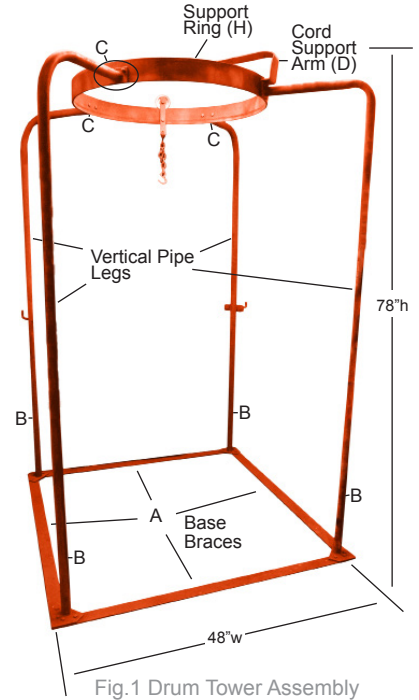

Fig.1 Drum Tower Assembly
- A. Lay four flat base braces (A) on floor and arrange in square fashion as shown in Fig.1.
- B. Attach vertical pipe legs (B) to base braces using 1/2" long cap screws. Cap screws thread into tapped holes in base braces. Finger tighten screws at this time.
- C. Attach supporting ring to vertical pipe legs at three locations (C) using 1" long cap screws and aviation nuts. Be sure heads of screws are inside the ring. Finger tighten screws at this time.
- D. Attach fourth leg and cord support arm (D) using 1 1/4" long cap screws. Be sure heads of the screws are inside the ring.